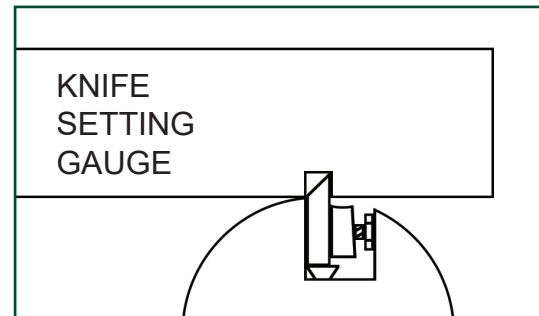

FIG. 33
1. Place the Knife Setting Gauge onto the cutterhead. The knife must project so that it touches the notch interior of the gauge. FIG. 33. Check both ends of the knife in the cutterhead with the gauge, to make sure that the knife is set at the same height. To adjust the knives;